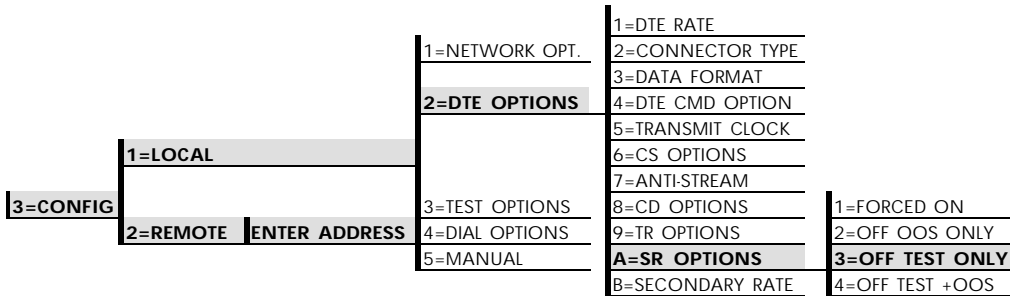

Figure 6-10
The SR Options menu is used to select the operating mode for the data set ready (SR) lead. Use **Shift + A** to activate the SR Options submenu press **Enter** to enter the SR Options submenu. The factory default setting is Off Test Only (shown in Figure 6-10).